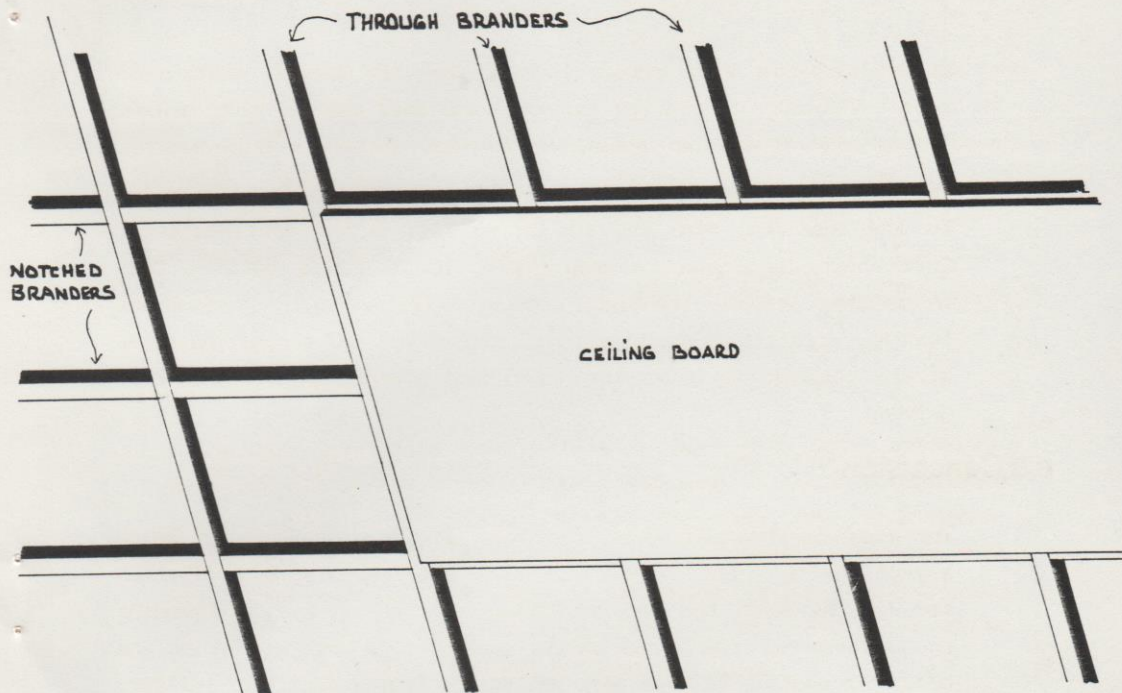

Fig.6.12 Brandering Spacing
- C. The final layer is the ceiling board itself. This should be nailed to the bandering with the insulation laid on top of them both. Care should be taken to ensure that it is fitted well so that no sagging between bandering occurs (Figure 6.12). Quadrant beading, cornice or skirting board should be used around the edges of the ceilings to cover the joints and coverstrip over the other joints.